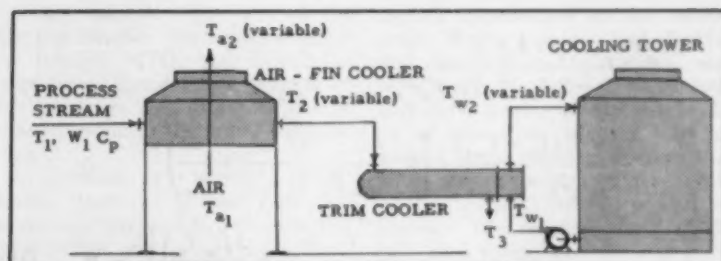

Figure 1. Trim cooler loop.
A typical cooling loop is shown in Fig. 1. The cooling water source is considered constant and the cost of the water is taken to reflect the cost of providing the water. In this case it is not necessary to consider separately how the water is provided. Kern (1) has indicated that the air fin cooler, operating at the air dry bulb, will not be economically desirable for producing a trim temperature which approaches the air temperature very closely. For this reason the derivation can be simplified by employing arithmetic mean temperature differences where applicable. The following assumptions are employed: (a) Arithmetic mean temperature differences are applicable. (b) The number of tube rows and the face air velocity of the air-fin cooler are constant. The over-all coefficient of heat transfer will also be constant when the fluid velocity is constant or the tube side resistance is negligible. (c) The water velocity in the trim cooler is constant.